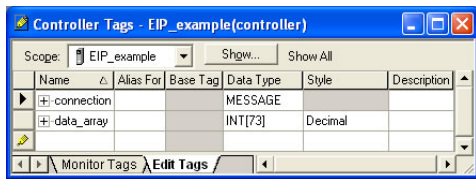

Figure 100: Create New Tags
- b) The “Controller Tags” window appears. Refer to Figure 100.